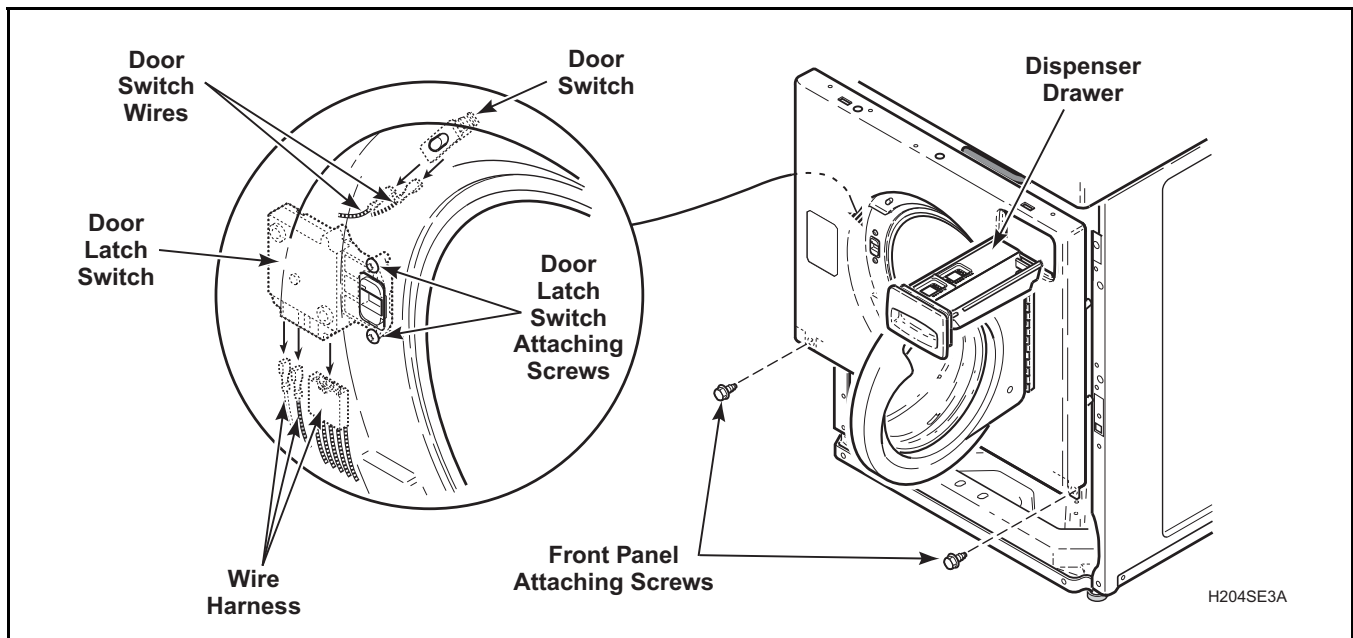

Figure 31
- Remove bottom two front panel attaching screws. Refer to *Figure 31*.
- Unplug wire harness from both the door latch switch and from the door switch. Refer to *Figure 31*. Remove clips holding wire harness and door seal hose along top flange of front panel and remove front panel.
- p. While supporting the front panel assembly, remove the two bottom front corner screws. Refer to *Figure 31*. Remove front panel (with loading door attached) away from washer as far as wire permit.
- q. Unplug wire harness from both the door latch switch and from the door switch. Refer to *Figure 31*. Remove clips holding wire harness and door seal hose along top flange of front panel and remove front panel.
- Reach up between door seal and front panel. Refer to *Figure 31*. Press in on switch locking tabs and push switch out through front panel only far enough to allow removal of wires from switch terminals.